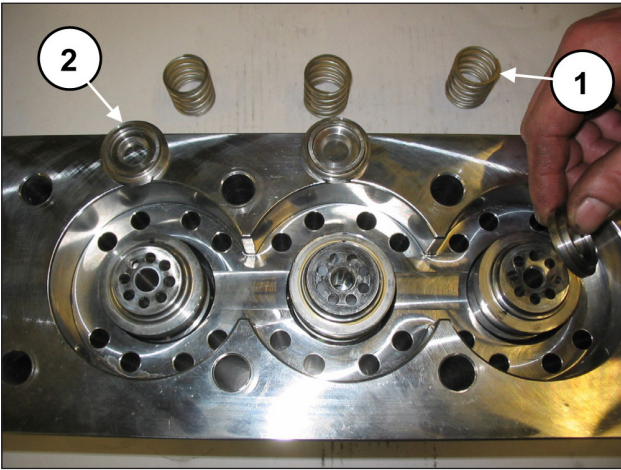

Fig. 101
During disassembly of the liners, take care not to disperse the valve springs and the flat valves (pos. ① and ②, Fig. 101) as, not being locked, they could fall.